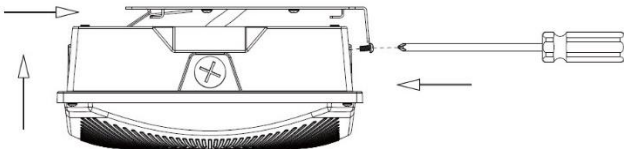

Figure 5
- 10:** Swing fixture up flush with quick mounting plate. (Figure 5)